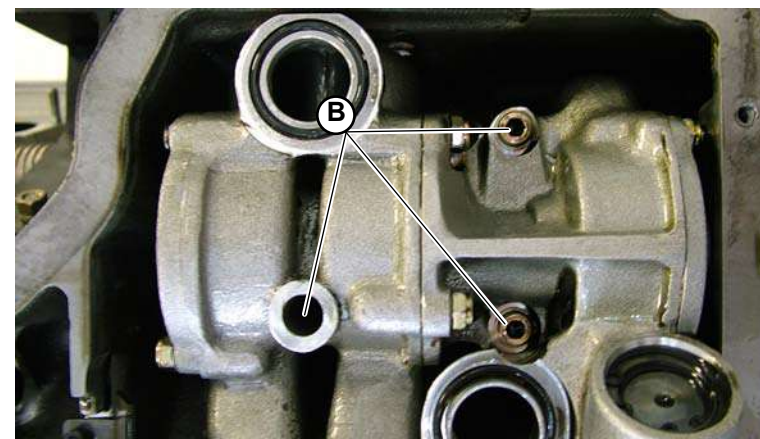

Fig.3
3. Fasten the pump by means of the 3 screws (**B-Fig.3**);